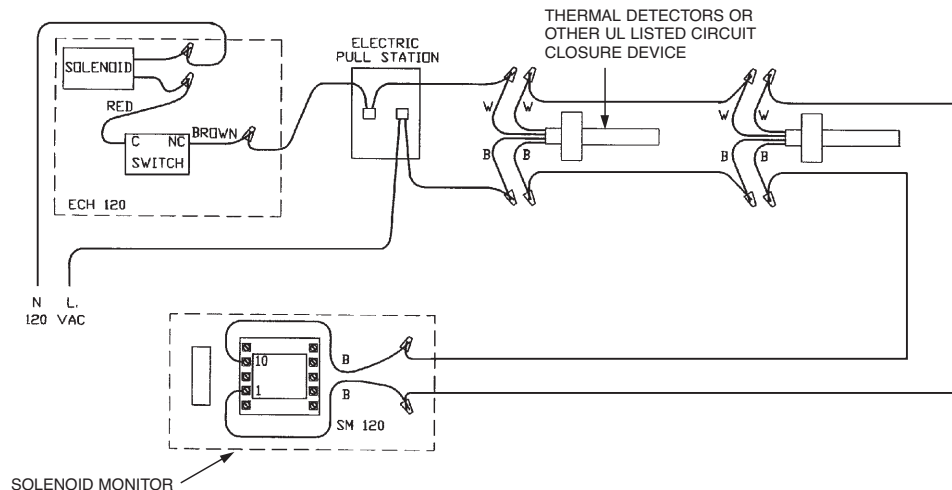

Figure 4-14.1. Wiring Diagram, Solenoid.
- ▶ All wire for circuits using the Model SM-120 shall be 14 gauge minimum, or as required by local code. The basic wiring diagram for both the Model SM-24 and Model SM-120 is shown in **Figure 4-14.1**.
The Model RPS-E2 remote electrical pull station is used for remote actuation of the Model ECH3 Control Head. It is to be located near an exit in the path of egress from the hazard area no more than 4 ft. (1.2 m) above the floor. The Model RPS-E2 is installed in the detection/actuation circuit and wired in accordance with the instructions included. See Figure 4-14.1 for typical circuit wiring.